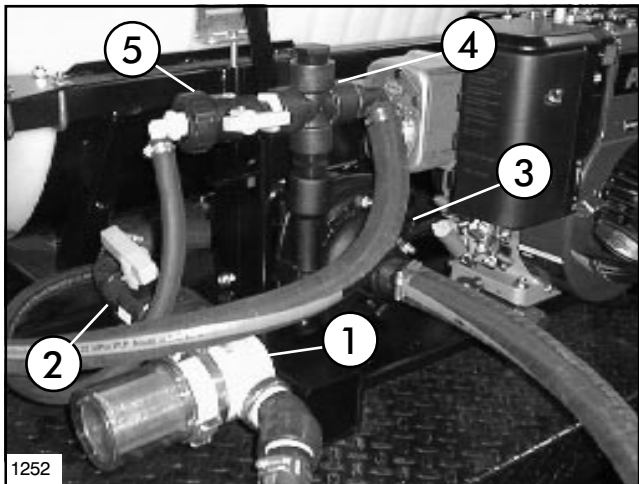

FIG. 5
2. Apply thread sealer and install the 1-1/4" Ball Valve into the inlet port of the Suction Strainer using (1) 1-1/4" close nipple. See FIG. 5.
4. Apply thread sealer and install (1) 45° Elbow and 1-1/4" Hose Barb into the outlet port of the Suction Strainer.
5. Secure Suction Strainer to Strainer Bracket using (1) hose clamp.
8. Connect Suction Strainer and Pump with 1-1/4" x 36" suction hose. Secure with (2) hose clamps.
10. Apply thread sealer and install 1" x 1/2" reducing bushing, 1/2" close nipple, 1/2" Ball Valve and 90° hose barb into L.H. port in Cross. See FIG. 5.
13. Apply thread sealer and install 1" x 90° hose barb in R.H. port in Cross. Secure the 1" x 44" Hose to 90° hose barb using (1) 1" hose clamp. Route other end of hose toward front of vehicle along L.H. side.